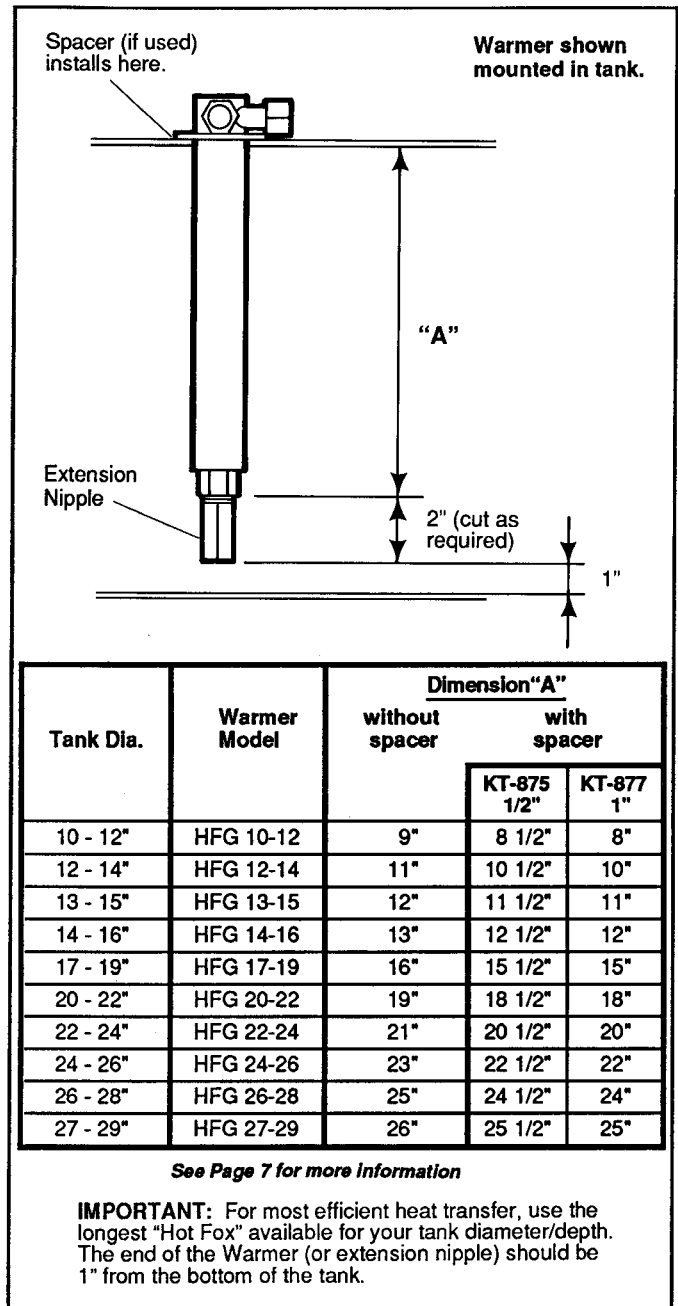

Fig. 1
- The end of the Warmer should be 1" above the bottom of the tank. Install the 2" long extension nipple if necessary, and cut it to the proper length. See Fig. 1. If you are going to use an optional Spacer Kit (page 7), you must compensate for the spacer thickness when cutting the nipple. Deburr the end of the nipple.